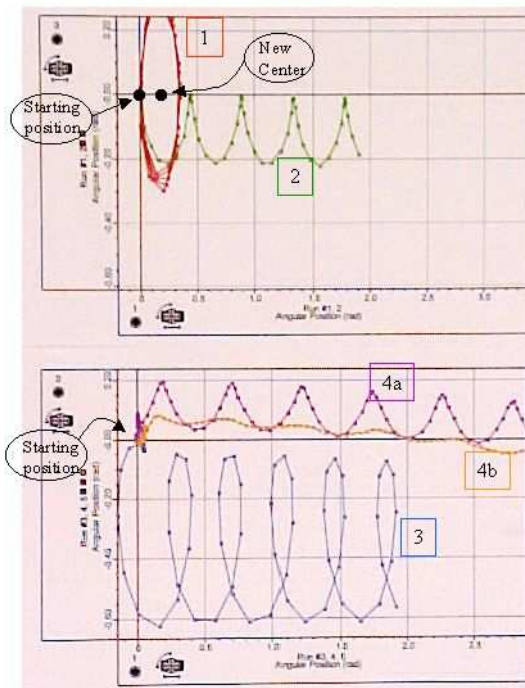

Figure 1
- Figure1 contains data registered on the demonstration gyroscope by using two Rotary Motion sensors (PASCO CI-6538) in combination with PASCO-software (Science Workshop).